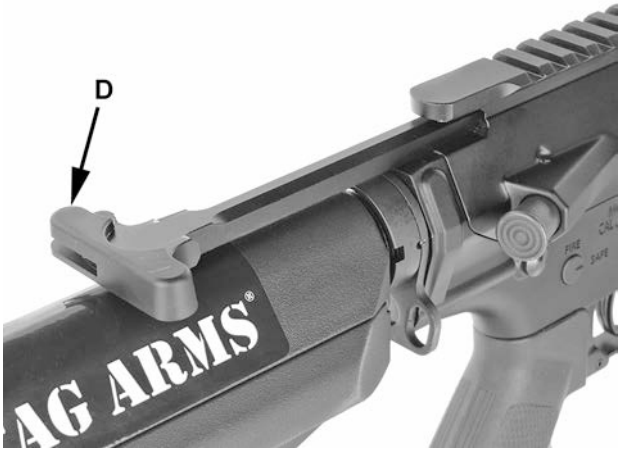

Figure 21
3. Unlock and pull the charging handle (D) all the way out and press in on the lower portion of the bolt catch (E). Release charging handle. This locks the bolt in the open position. See figure 21 and 22.